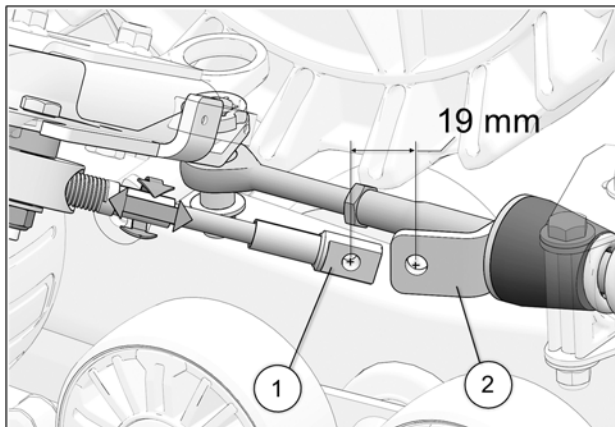

Fig. 23
14. Turn the vehicle's steering wheel to its maximum point of travel on the left. While maintaining pressure on the steering wheel, turn threaded rod to adjust length of cable. See Fig. 23
15. Position cable end hole (1), 19 mm [$\frac{3}{4}$ in.] short of support plate (2) mounting hole. See Fig. 23